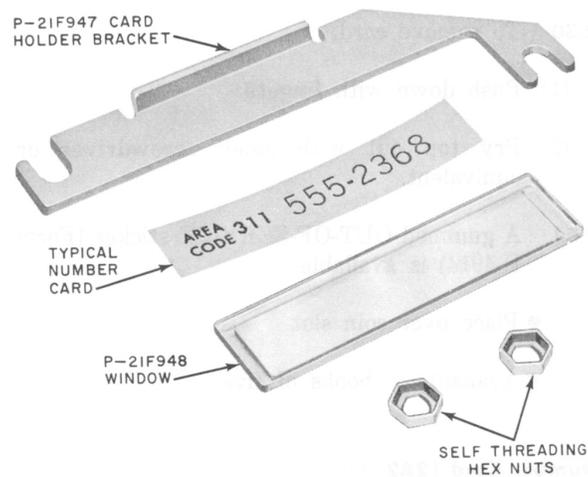

Fig. 9—Number Card and Associated Parts
2.33 The P-21F947 card holder bracket, P-21F948 window and two hex nuts (Fig. 9) are packaged separately and shipped in the cash compartment.